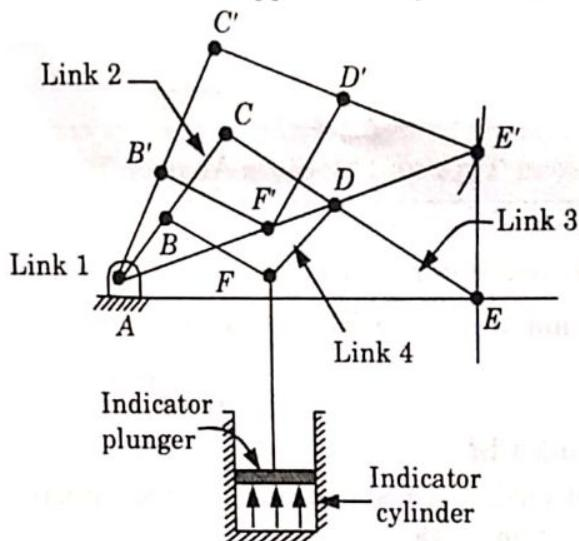

Fig. 1.9.3.
1. A Watt's indicator mechanism which consists of four links is shown in Fig. 1.9.3.